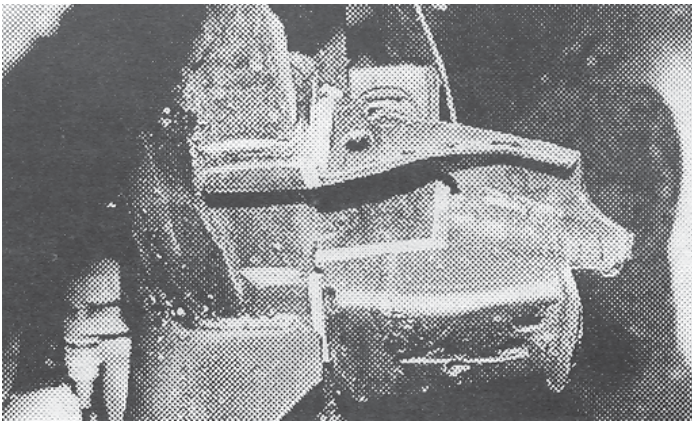

Fig. 12A
- (I) Cut the extension stop gusset off flush with frame.
- (II) Cut front surface of bracket 1/2" below the bottom of frame, horizontally out 2". Cut vertically down bracket to intersect horizontal cut. **Fig. 12A.**